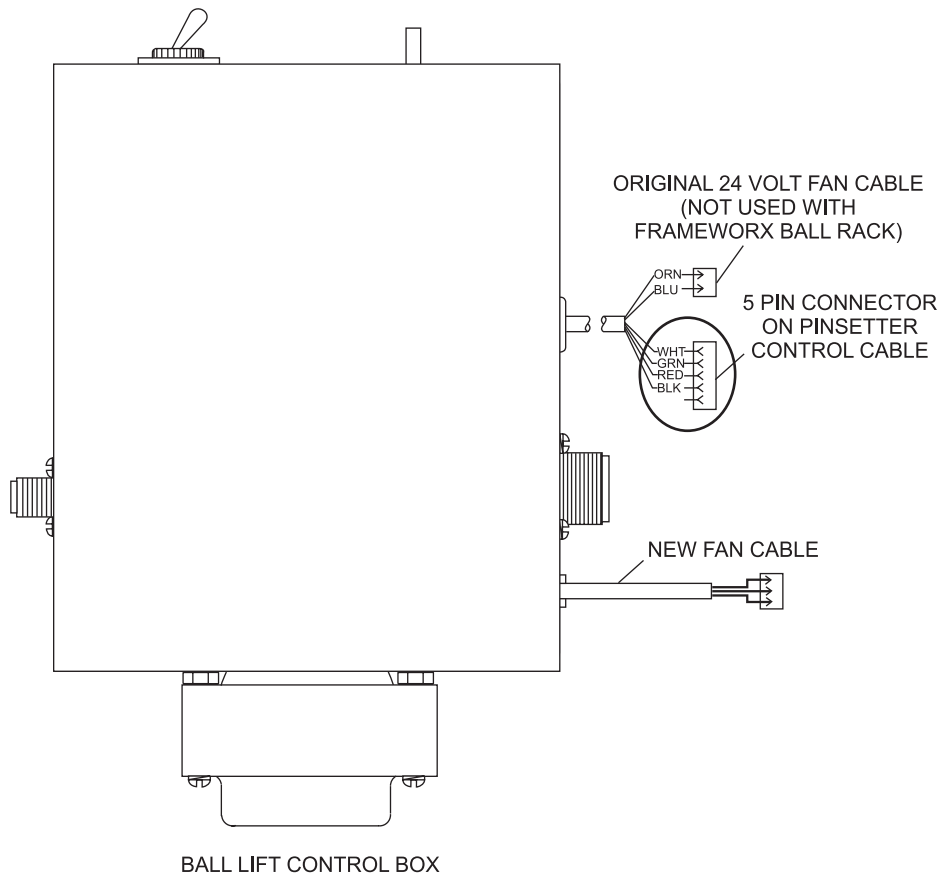

Figure 6
2. Locate the 5 pin connector on the ball lift control box. Refer to *Figure 6*.